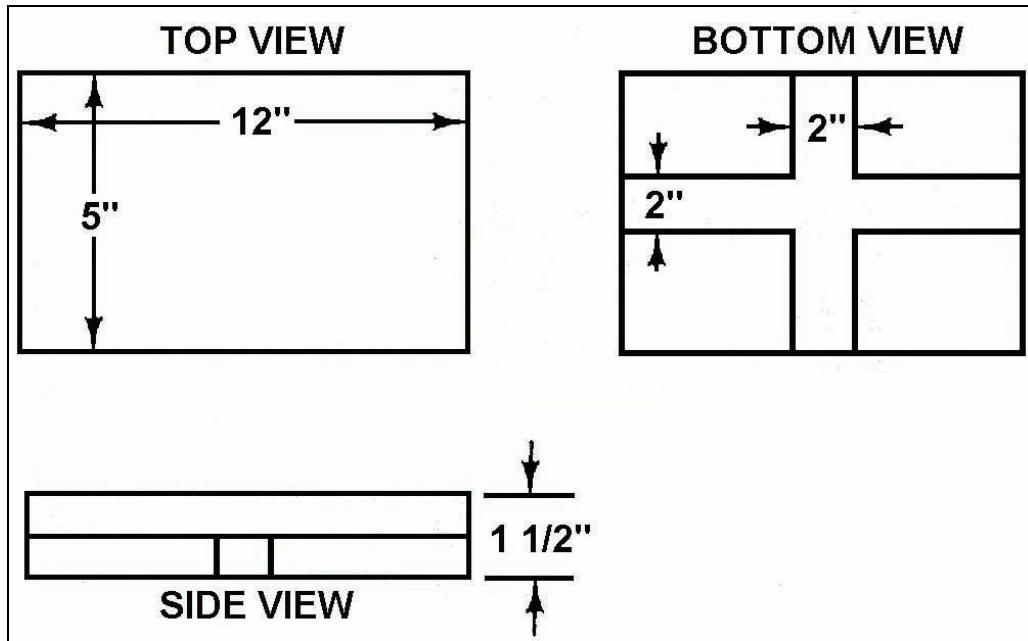

Figure 3-15. Use of Spacers
NOTE: Two (2) spacers are required as a minimum (see Figure 3-15).